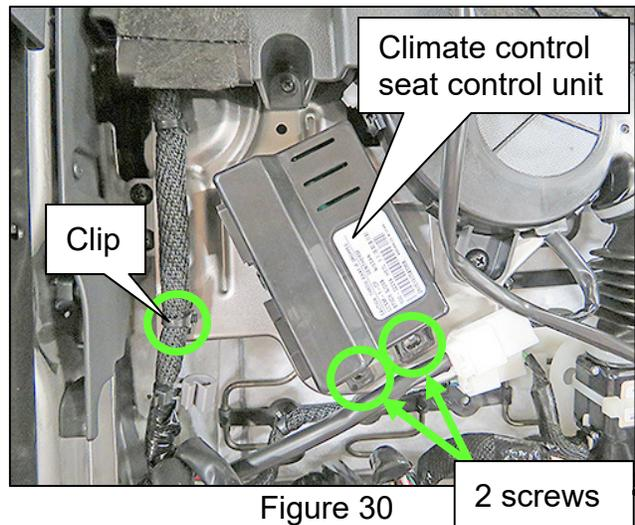

Figure 30
- Held by two (2) screws.
41. Reattach the clip removed in step 12 and shown in Figure 30.